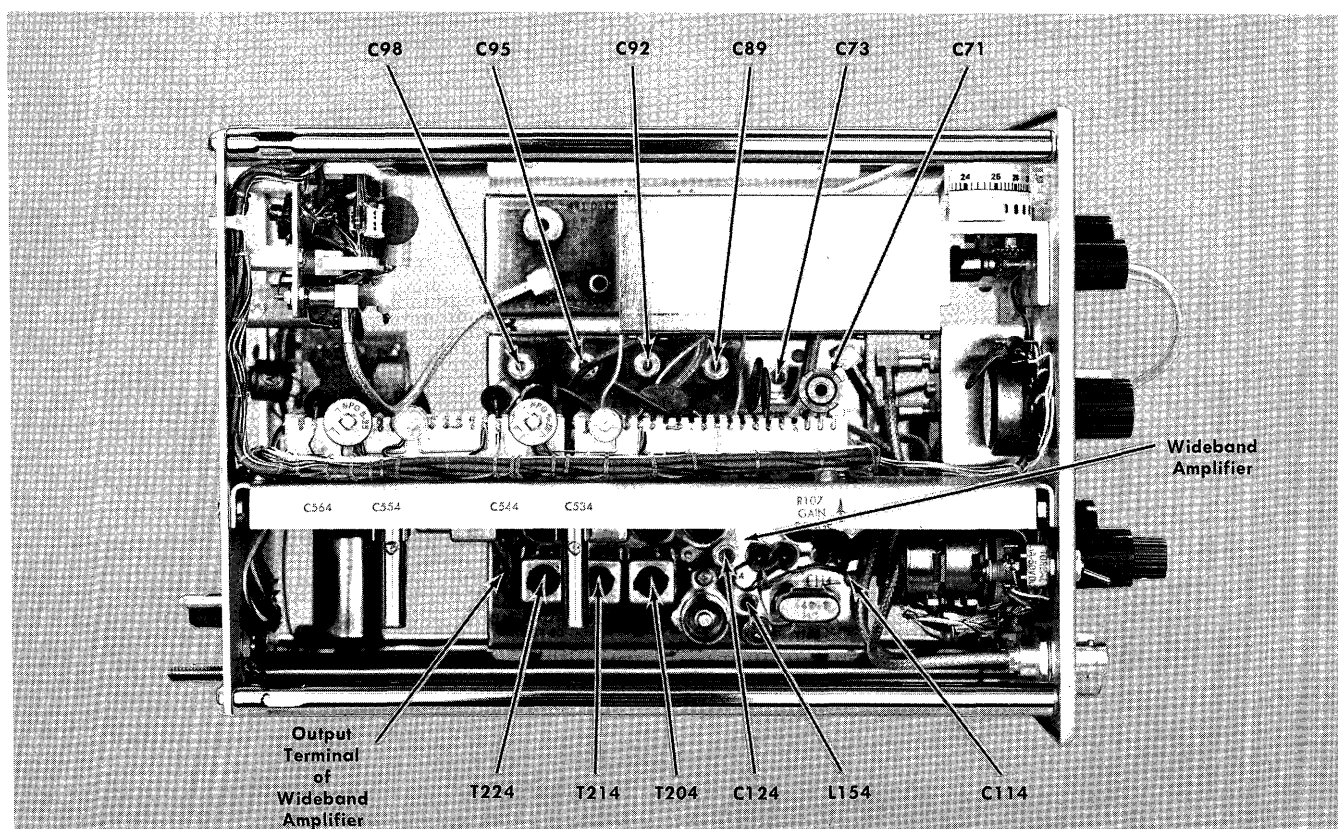

Fig. 4-12. Location of adjustments on Wideband Amplifier and 60-mc Filter chassis.
e. Unsolder the coax at the output of the Wideband Amplifier (see Fig. 4-12) and connect the probe of the test oscilloscope to the output terminal of the Wideband Amplifier. Set the test oscilloscope to observe a 10.7 mc signal
g. Adjust C114, C124, T204, T214 and T224 (Fig. 4-12) for maximum signal amplitude on the test oscilloscope.
i. Adjust C89, C92, C95 and C98 (Fig. 4-12) for maximum signal amplitude on the test oscilloscope.